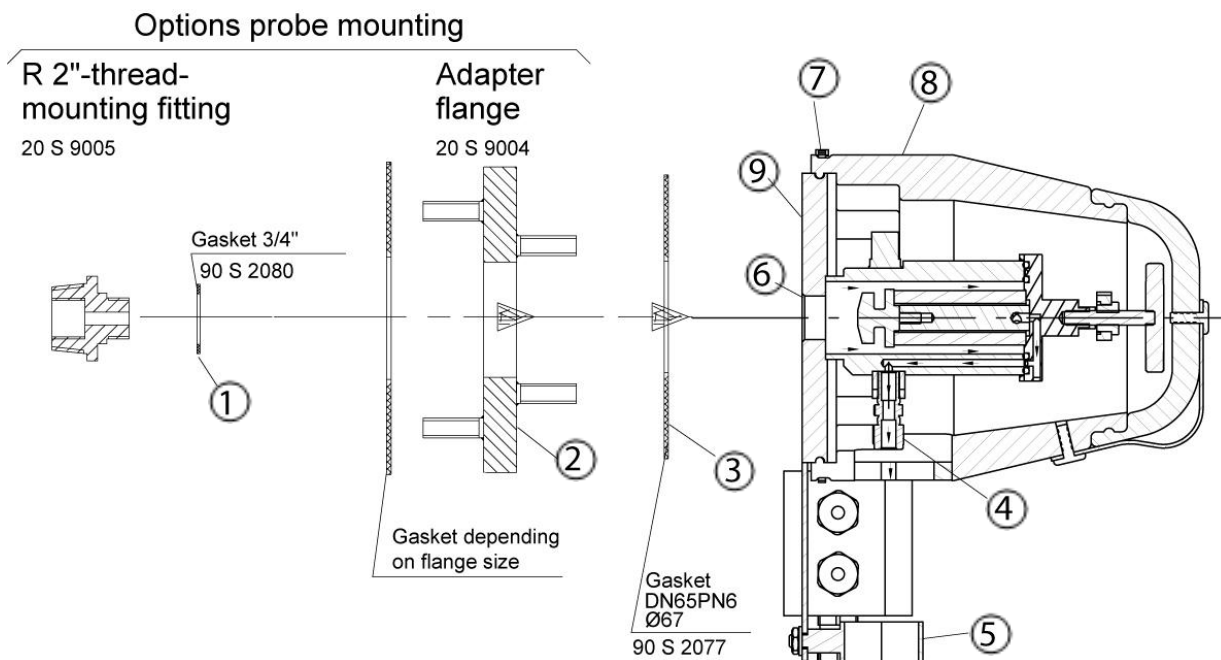

Figure 2 Mounting of the SP180-H
M&C SP180-H probes are designed for stationary use. The professional choice of the right sample probe for the application and the professional installation guarantees a long service life and minimum maintenance work. The ideal position for mounting the sample probe is horizontally with a tilt angle of 10% towards the process. Please follow these installation steps and see details in Figure 2.
- Screw the sample probe tube directly into the $\frac{3}{4}$ " inner thread ⑥ of the probe flange and tighten it.
- To mount the SP180-H at the sampling flange, please loosen the metal clamp ⑦ around the heat insulating protection cover and remove the cover ⑧.
- If the probe connection is not the same size as the standard flange connection DN65 PN6, an adapter flange ② (optional) should be mounted to the probe (see Figure 2). Place the gasket ③ between the adapter flange and the probe flange.
- If the heated probe tube type SP30/35 is used then the probe is to be screwed to its flange (with welded threaded bolt). First insert the flange seal ③ between the two flanges.
- Attach the flange seal ③ to the probe connection.
- After mounting of the probe at the sampling flange put the heat insulating protection cover ⑧ over the probe flange again and secure it with the metal clamp ⑦.